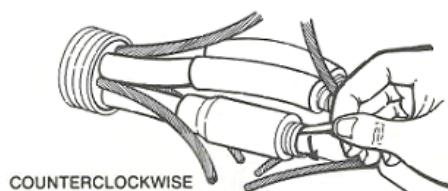

Figure 3
- Slide cold shrink insulator assembly over connector area. As the core is removed, the rubber tube will elongate 1/4" (6,4 mm). Position assembly so tube is centered over connection when core is removed. (Figure 3)
- Remove cores by UNWINDING COUNTERCLOCKWISE. (Figure 3)